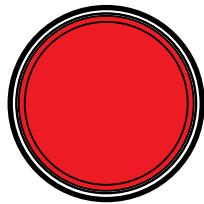

Figure 63. Contactor Open Lamp (ON/RED)
3. Verify that the **Contactor Open lamp** (Figure 63) is **ON (RED)**. This indicates that the contactor contacts are open.